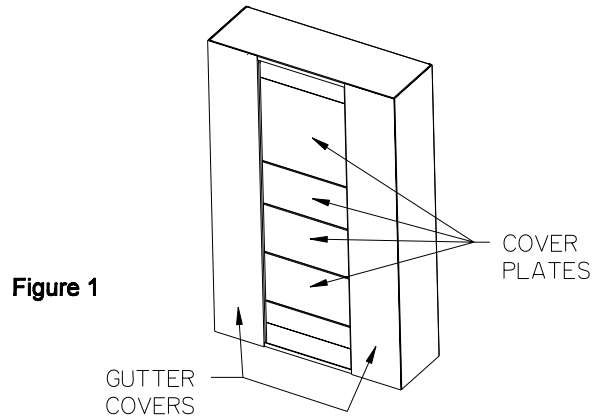

Figure 1
- Reference fig. 1 - Remove the (2) gutter covers and cover plates.